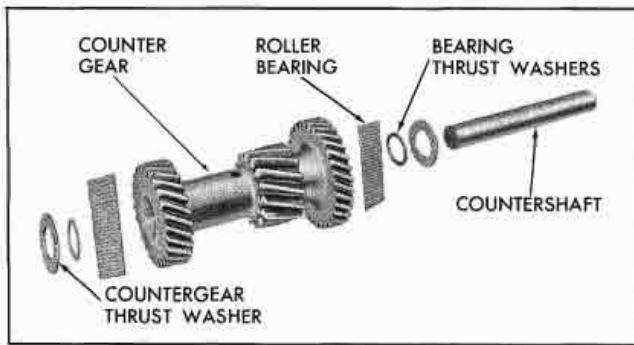

Fig. 7-48 Countergear Assembly
3. Apply grease to bearing thrust washers and countergear thrust washers and place bearing thrust washers, followed by countergear thrust washers, at both ends of countergear (Fig. 7-48), making certain tangs on countergear thrust washers face out.